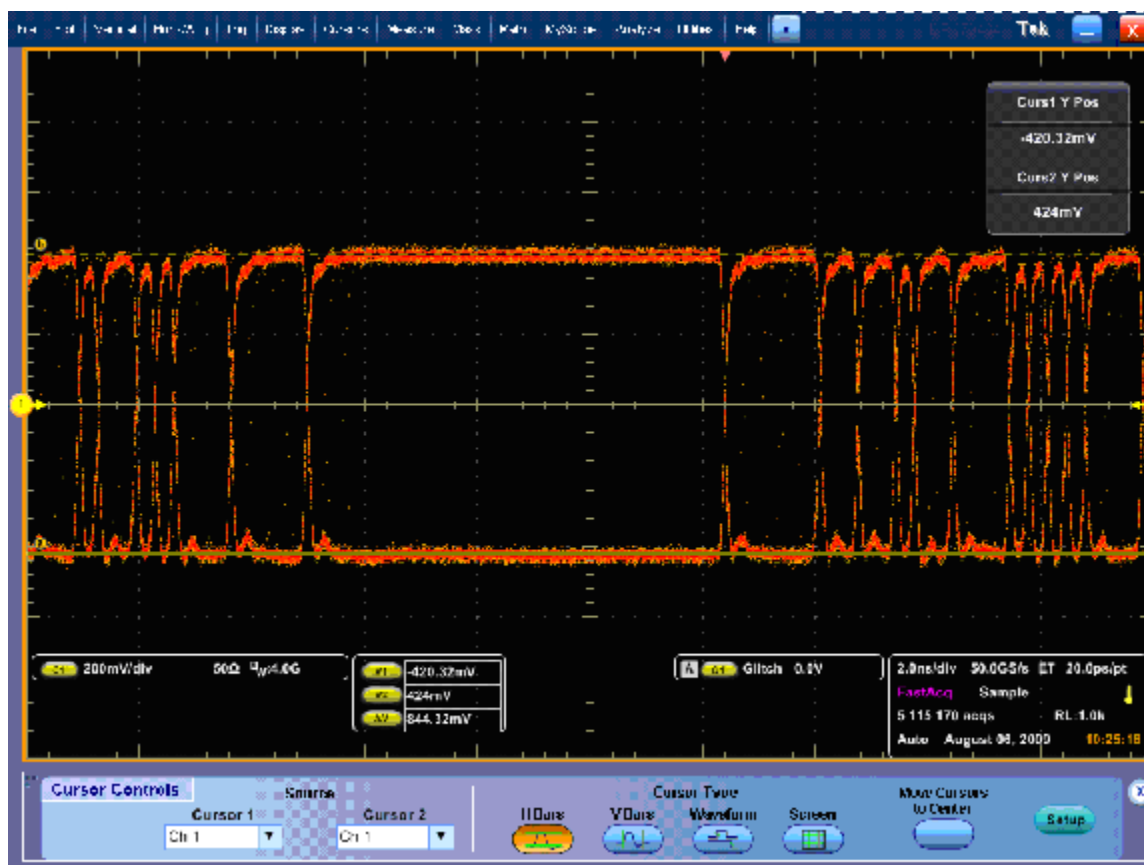

Figure 3: Serial output at 3 Gb/s, using Glitch Trigger mode
11. Check the signal amplitude, using the 7 ns wide region without transitions. The amplitude should be very similar to that observed in step 4. Outside of the 7 ns region, check that the eye is open between transitions. (See Figure 3.)